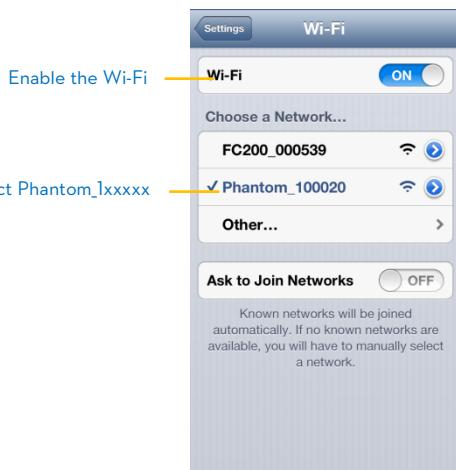

Fig.1
3. (Fig.1)Enable the Wi-Fi on your mobile device; wait for about 30 seconds, and then select the Phantom_1xxxxx from theWi-Fi network list.